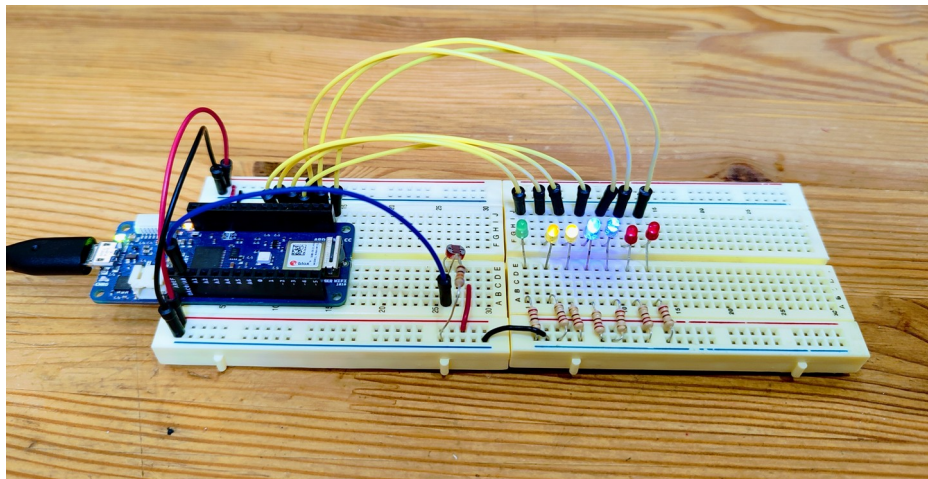

Figure 9 – An example light sensitive LED bar graph
- b) Add more LEDs to your system and create a light sensitive LED bar graph (see Figure 9 for an example).